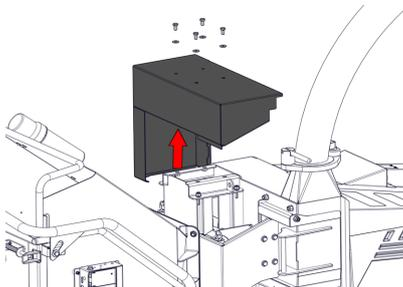

Figure 33 - Removing the Roller Box Guard
2. Unbolt and remove the roller box guard (Figure 33).